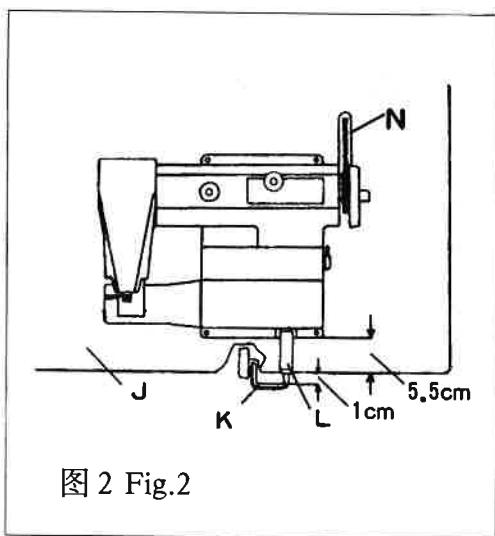

图 2 Fig.2
② Connect front end of long shaft with knee lifter "K" and sleeve "L". When the crossbar of knee lifter is 1 cm. distant from the front end of table "J", fix the sleeve (Fig.2).
③ Put on "V" belt "N", move the motor leftwards or rightwards so as to fix the motor under the sewing table after making the motor pulley in alignment with handwheel. Regulate the motor's height in order to make the belt in an appropriate state of tightness.
④ First fix the motor switch at the bottom right place of the front end of sewing table for the convenience of operation, and then turn on the power.